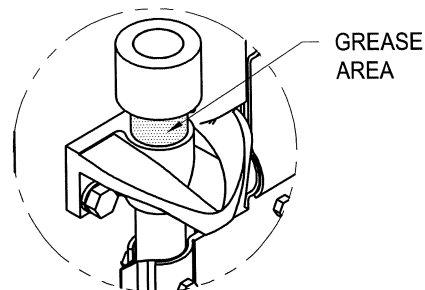

fig. 12
- Grease 2" portion of shaft above top v-cam hinge (fig. 12) & bottom hinge bearing (fig. 13).